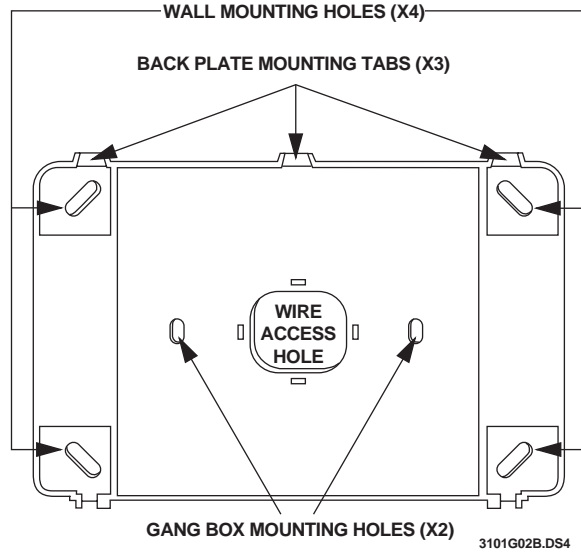

**Figure 1. Touchpad Mounting Slots**
1. Separate the mounting bracket from the back-plate by loosening the two bottom screws and unlatching the tabs from the mounting slots (see Figure 1).